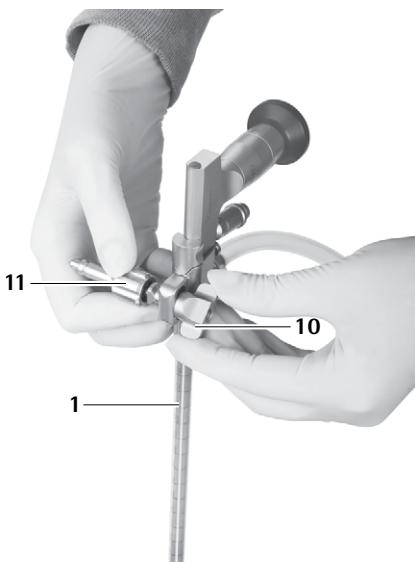

Fig. 19
- ▶ Screw on the wing nut **10** until the holding arm adapter **11** is fixed in place, see Fig. 19.